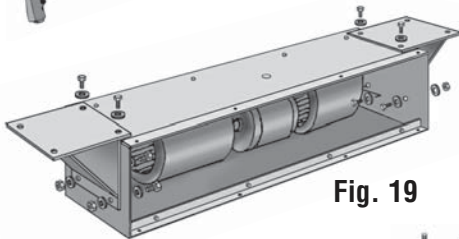

Fig. 19
4. Using bolts and washers on the top and bolts, washers and nuts on the side panels, secure both brackets to the unit. (**See Fig. 19**)